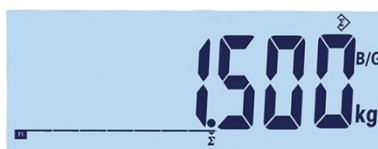

Figure 2-24: Collecting value symbol
1. Put the first weight on the platform and press the “accumulation” function key . If the stable weight is detected within 2 seconds, the grand total value will be 1.5 kg and number will be 1 (Figure 2-24).